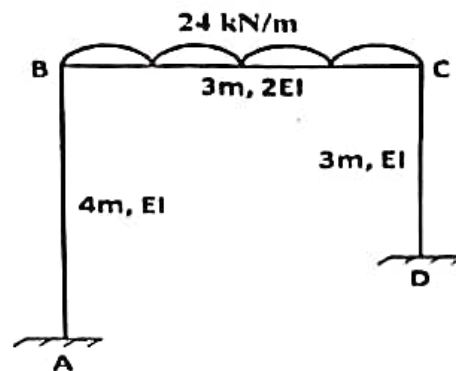

Fig. 8
Please analyze the frame shown in Fig. 8 using slope-deflection method. Draw shear-force and bending moment diagrams. Also sketch the deflected shape. (7)